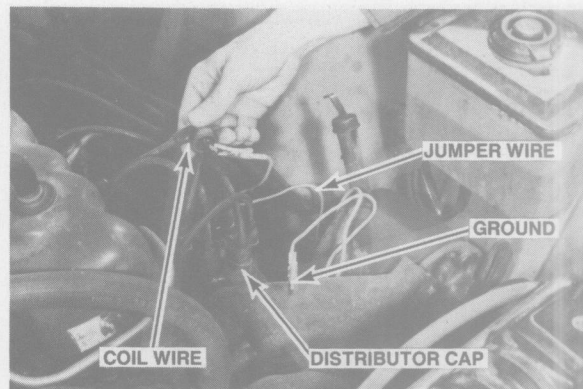

Figure 1-7. Use a jumper wire to ground the coil secondary wire to the engine block to disable the ignition.
2. Disconnect the secondary coil wire from the distributor. Connect the coil wire to ground with a jumper lead, figure 1-7, to prevent the engine from starting. If the engine has a GM HEI system or a distributorless ignition system, disconnect the battery wire from the ignition system, figure 1-8.